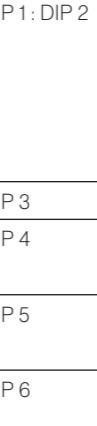

Fig. 4
3. Pass the 115VAC power cord through the cable clamp hole and make wire connections following the below color codes (Fig. 4):